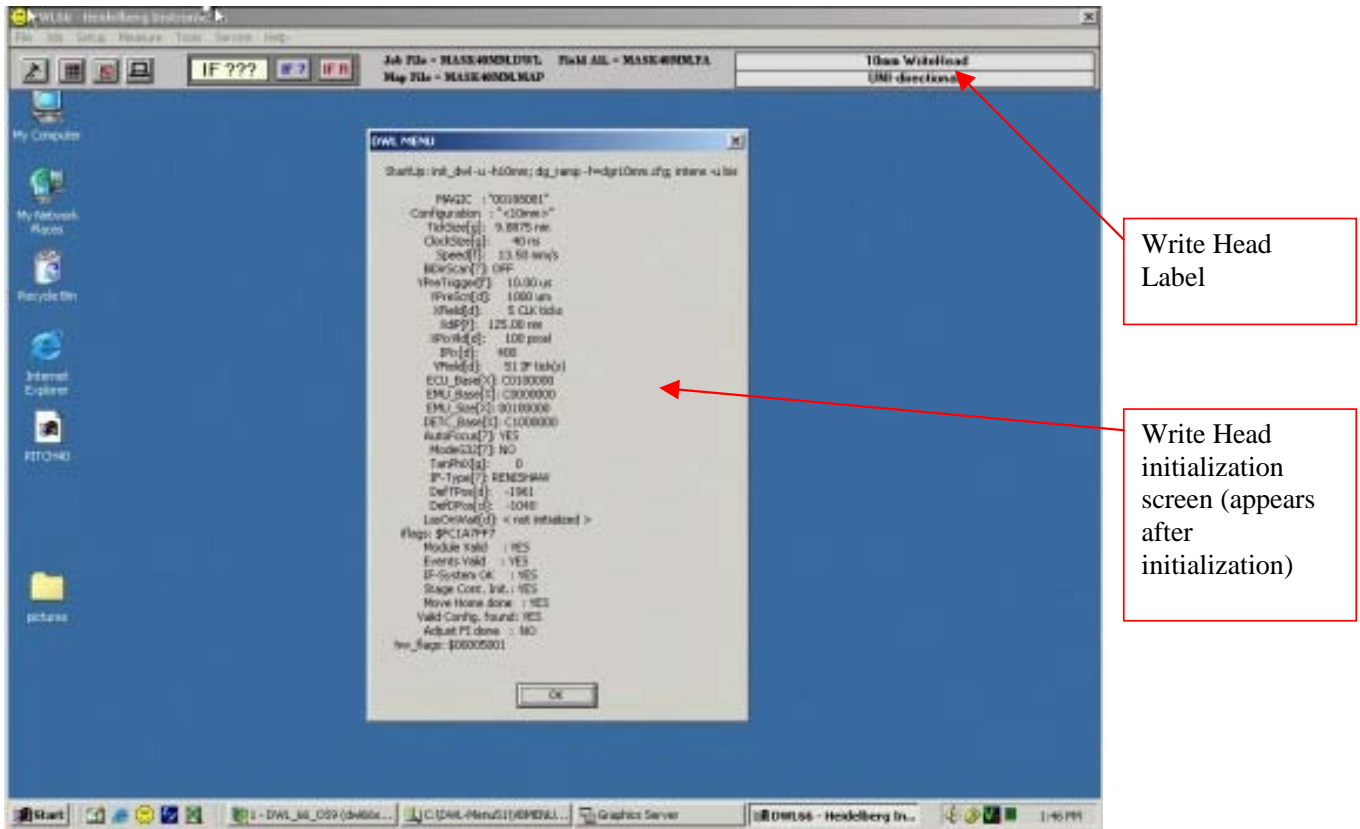

Figure 2-3: DWL MENU startup
- During startup the system will sit there as it loads the write head information into the exposure computer. After more than a minute the DWL MENU window will appear (figure 2-3).
- Click **OK** on the DWL MENU window See Figure 2-3.
- ❖ **DWL MENU:** Change the write head by double clicking on the write head label in the DWL MENU upper right hand corner (See Figure 2-3).
- ❖ **Wait:** It will take about one minute for the parameters to load and display the informational screen (figure 2-3). Click “OK” when prompted.